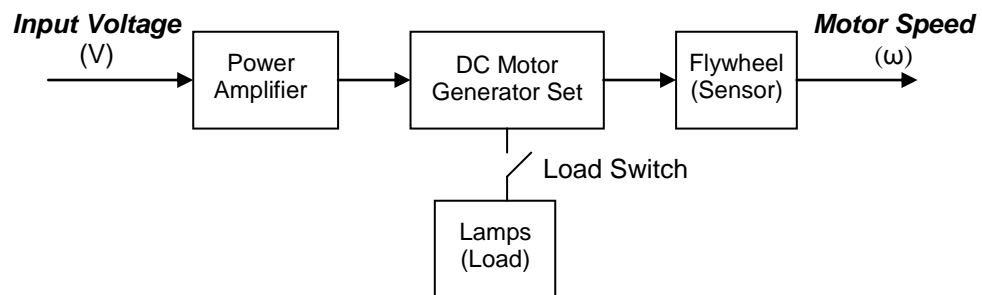
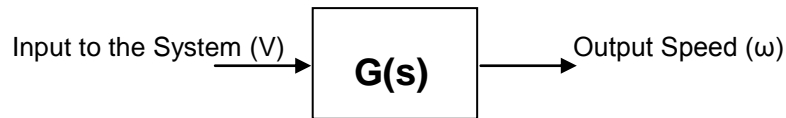

Figure M1.3: DC Motor Speed System
Figure M1.4: System Transfer Function
Figure M1.3 shows the block diagram of the DC Motor Speed System, while Figure M1.4 represents the transfer function of the system.
- Connect the “*DC Motor Speed System Block Diagram*” (Figure M1.3) to the Power Supply unit and with the “Reference Variable generator”.